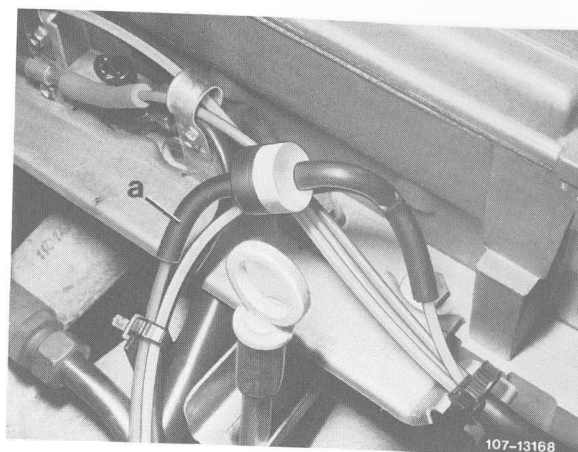
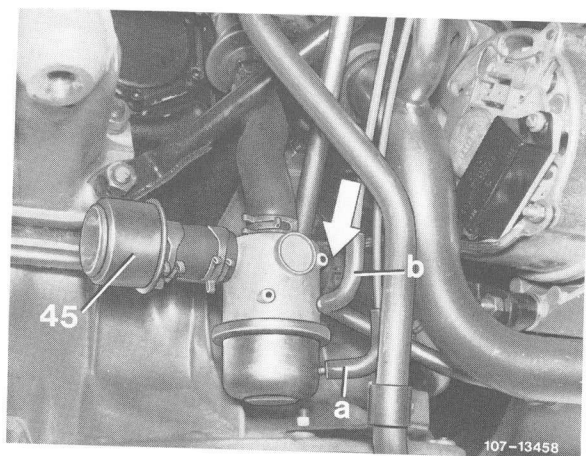

Fig. 113
Fig. 112
Connect CO tester. Pull off vacuum line (a) from delay valve (Fig. 112).
a) Remove air filter for noise suppression (45). Run engine at idle. Pull off vacuum line (a) from delay valve (77) (Fig. 113). Air must flow from air hose of anti-backfire valve. If no air is emitted, check air pump. To do so, pull air hose (arrow, Fig. 112) from air pump on the anti-backfire valve.